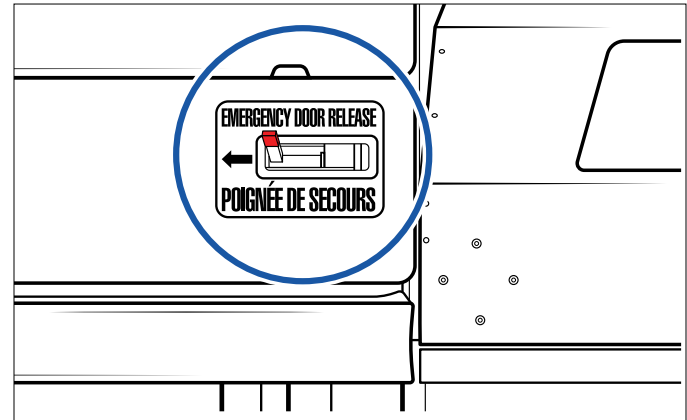

Figure 5 - Emergency release handle
1. Slide the red lever above the front door to the left (front of the bus) to unlock the door (Figure 5).